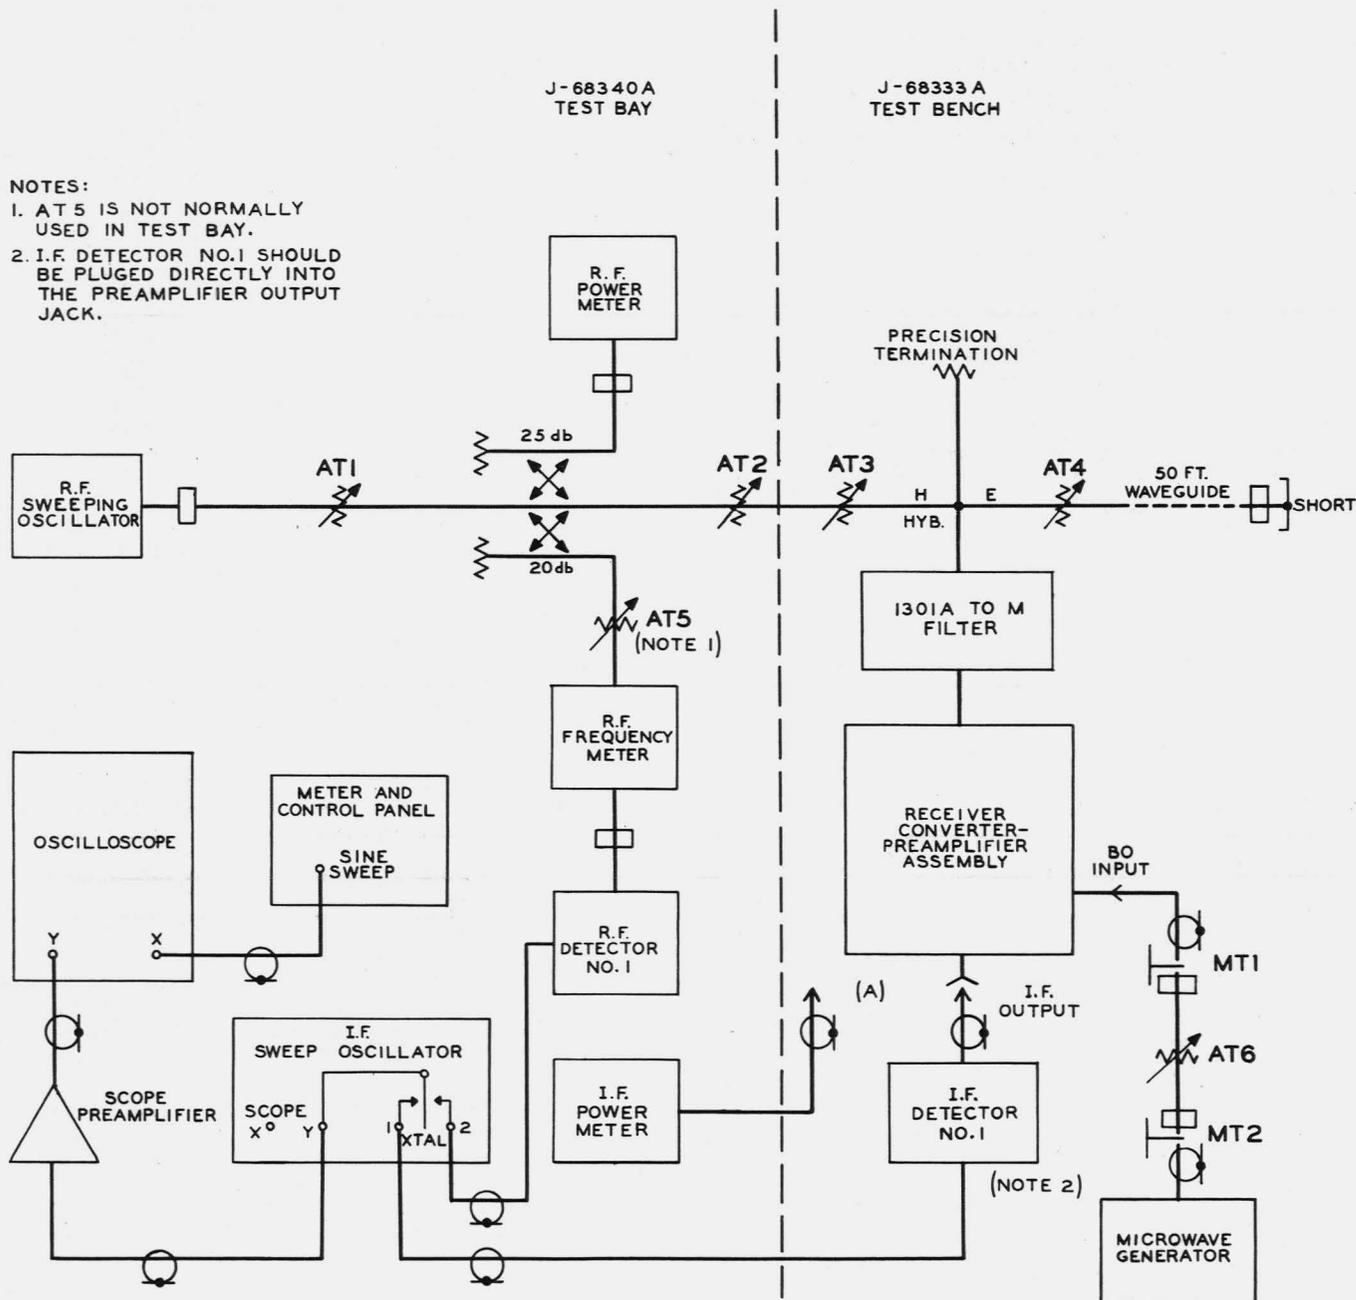
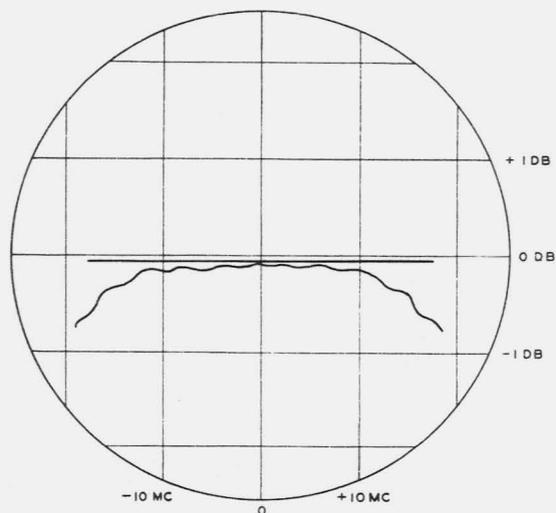

Fig. 4 - General Test Arrangement for Receiver Converter
Fig. 5 - Typical Input Impedance Characteristic of the Receiver Converter
The arrangement of the apparatus is indicated in Fig. 4.
- (2) Connect the test equipment and receiver converter-preamplifier assembly as shown in Fig. 4.
- (3) Set the attenuators as follows:
- (1) Set up the test equipment as in Fig. 4 and calibrate in accordance with paragraph 3.05.
(1) With the test apparatus set up as in Fig. 4 and calibrated in accordance with paragraph 3.05, turn on the oscillator sweep and adjust AT5 for coincidence of the test and reference traces at the center frequency.
(2) Increase the setting of AT5 by 1 db and adjust the oscilloscope vertical gain to make the separation of the two traces equal one inch at the center frequency. Reduce the setting of AT5 by 1 db. The two traces should again be in coincidence at the center frequency.
(3) Set AT4 to a value such that the loss of the 50 feet of waveguide plus the setting of AT4 equals 4.5 db.
(4) Note the ripples which appear on the transmission curve. A typical oscilloscope picture is shown in Fig.5.
(1) With the apparatus set up as in Fig. 4 and calibrated in accordance with paragraph 3.08, Steps (1) to (3) inclusive, start with the tuning screws all the way out (just entering the waveguide) and adjust the tuning screws for minimum ripples over the center 20 mc of the band. Adjust AT5 as required to keep the separation of the two traces not more than 0.1 db at the center of the band.
(1) With the apparatus set up as in Fig. 4 and calibrated in accordance with paragraph 3.08, Steps (1) and (2), set AT4 at maximum and observe the difference between the test and reference traces over the center 20 mc portion of the band.
(1) With the apparatus set up as in Fig. 4 and calibrated in accordance with paragraph 3.08, Steps (1) and (2), set AT4 to maximum attenuation.
(2) Rotate C31 on the preamplifier in both a clockwise and counterclockwise direction. The 80 mc edge of the band should rock an equal amount above and below the 60 mc edge of the band. As C31 is tuned there should be an adjustment where the band is flat.
(3) If the requirements cannot be met by adjustments of C31 it will be necessary to change the waveguide spacers between the tuner and the converter. The spacing should be changed in 1/16 inch steps.
(4) Each time a spacer is added or taken out repeat Step (2) of this paragraph and Steps (3) and (4) of paragraph 3.08.
(5) If necessary, adjust the tuning screws of the 400-type tuner to keep the ripple within the 0.1 db requirement.
(6) It may be necessary to add or take out several waveguide spacers before the 0.15 db flatness requirement is obtained.
- (1) With the apparatus set up as in Fig. 4 and calibrated in accordance with paragraph 3.05, disconnect the IF detector from the output jack of the preamplifier at A.
- (2) Connect the IF power meter in the output jack of the preamplifier.
- (3) Turn the oscillator sweep off and adjust the oscillator to the mid-band frequency.
- (4) The input power to the converter should be -7 dbm (paragraph 3.05, Step (7)).
- (5) Observe the IF power meter reading in dbm. From this reading subtract 7 db, the RF input power. The resultant is the over-all converter-preamplifier gain.
- (6) The converter conversion loss is the measured preamplifier gain plus 0.9 db minus the over-all preamplifier gain.